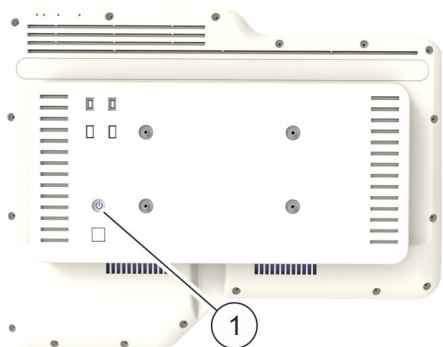

Fig. 7: On/off switch on the terminal
2. ▶ If there is genuinely a system error, switch the terminal off and on again using the on/off switch on the back of the terminal (Fig. 7/1).